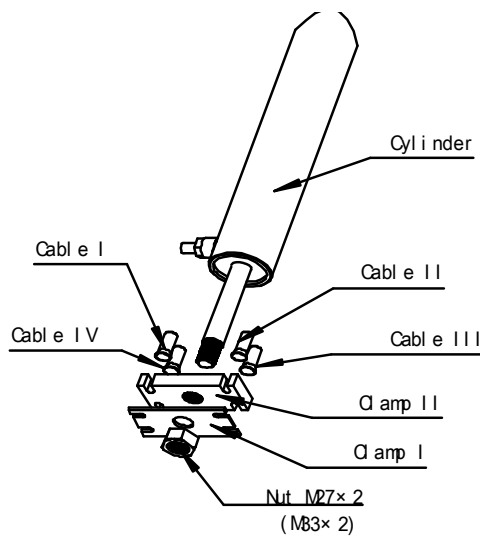

Fig.11
- Install 4 cables as shown in Fig. 11,12